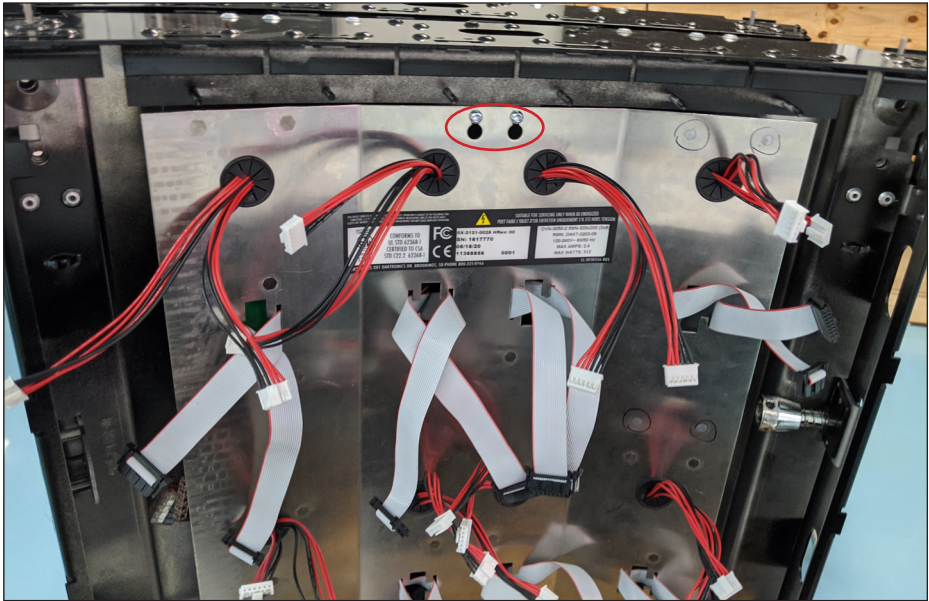

Figure 7: Remove Component Plate
2. Use a T20 TORX® bit to loosen the two top and two bottom screws securing the component plate to the display and then lift the component plate up and away from the keyholes. Refer to **Figure 7**.